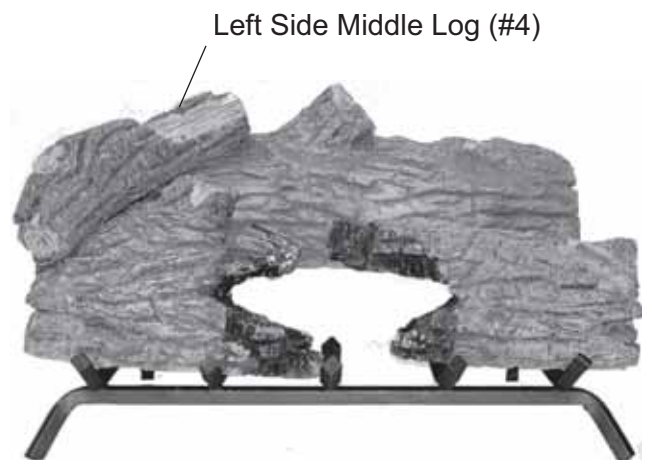

Figure 23 - Placing Left Middle Log (#4)
6. Install right side middle log #5 as shown. *See Figure 23.*